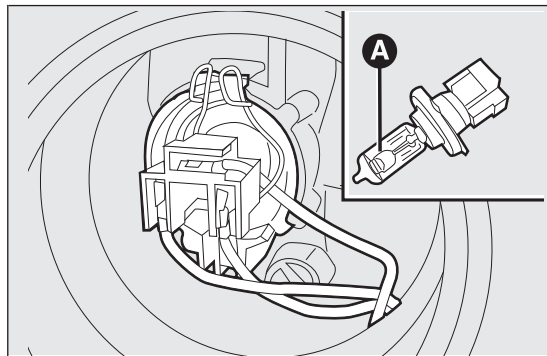

fig. 136
- ☐ remove the bulb A fig. 136 from connector B and replace it;